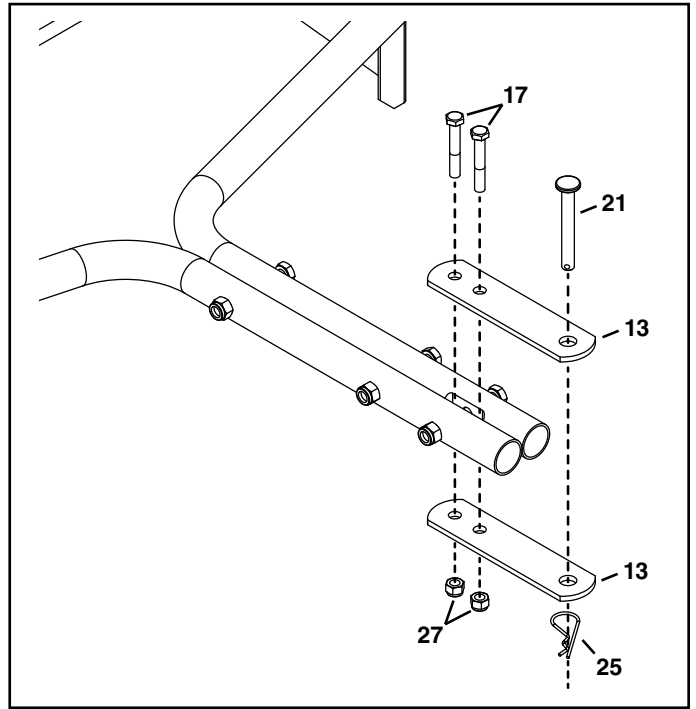

FIGURE 6
- Attach the hitch brackets (13) to the hitch tubes using two 5/16" x 2" hex bolts (17) and 5/16" nylock hex nuts (27). **Do not tighten yet.** See figure 6.
- Install the hitch pin (21) through the hitch brackets (13), and secure with a 3/32 hair cotter pin (25).